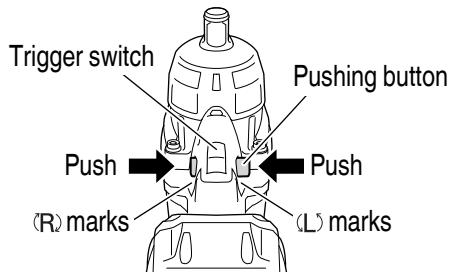

Fig. 13
The L-side of the pushing button is pushed to turn the bit counterclockwise. (See **Fig. 13**). (The (L) and (R) marks are engraved on the body.)